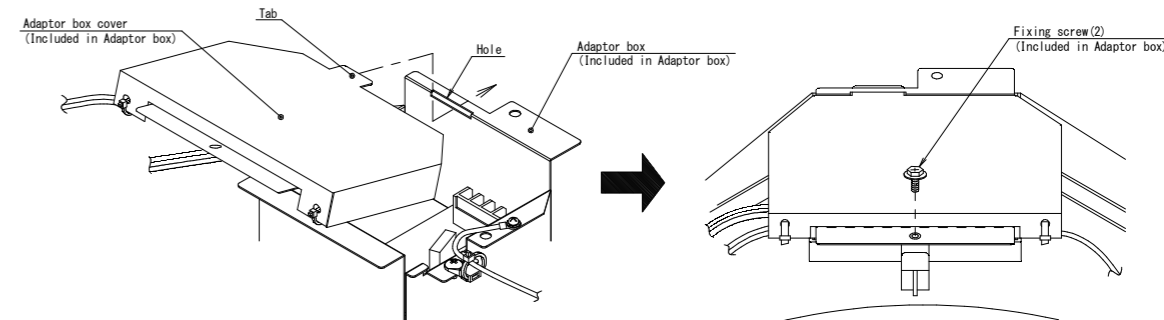

Figure 4
- (5) After putting the tab of Adaptor box cover into the hole of Adaptor box, fix with the Fixing screw (2) (Figure 4)